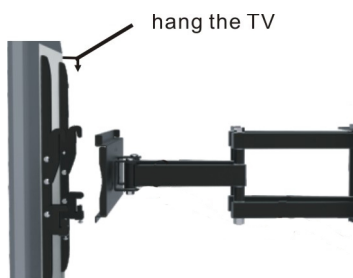

Figure 7
1. Hang the display plate onto the top of the wall plate and slip it into the wall plate as shown (Figure 7).